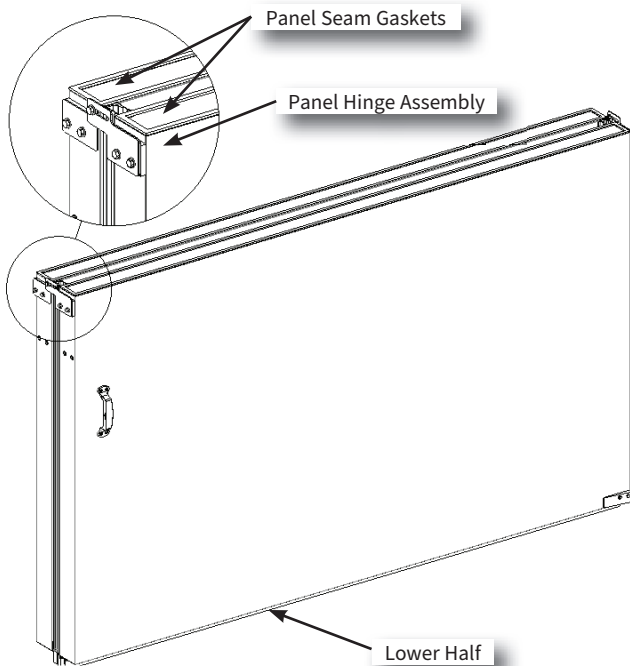

Figure 14: Take-Apart Panel Assembly
- 1 Take-Apart Panels are hinged for transport, and need to be un-folded & assembled before installation. Lay panel with lower half facing down on a horizontal surface (Figure 14). Make sure Lower half of panel is on bottom, with slotted hinge plate up. Support Panel with wood or Styrofoam blocks to prevent damage to Panel surface and exterior hardware.